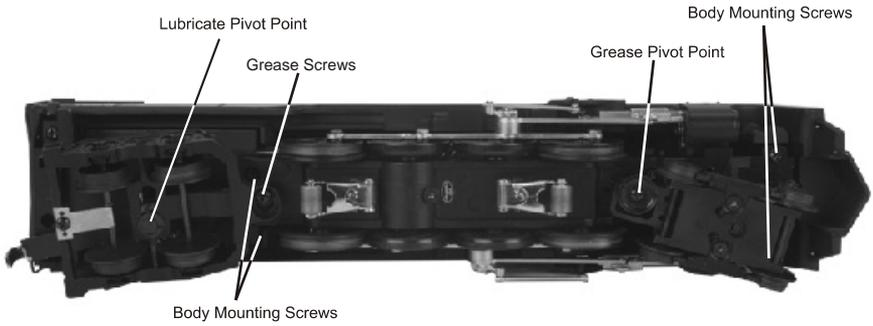
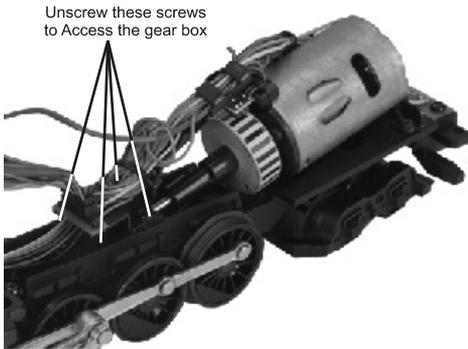

Figure 6. Removing the Body and Lubricating the Grease Points
Figure 7. Motor Gearing Grease Plate Screws
2. Remove the boiler by removing the body mounting screws shown in Fig 6
3. Remove the Phillips screw (marked “GREASE”) located at each set of wheels (Fig. 6) and the gearbox cover screws (Fig 7).
You should also grease the leading and trailing locomotive truck tongues to enhance their ability to slide on the chassis. Follow the grease points shown on Fig. 6.
1. To replace the headlight in this model you will need to follow the disassembly instructions for greasing the engine in figure 6 on pg. 13. Once the boiler has been removed you can access the headlight(see figure 8).
If you experience poor or no smoke output when the smoke unit is on and has fluid, check the wick to see if it has become hard, blackened, and unabsorbent around the heating element. To remove the smoke unit you will first have to remove the boiler shell (by removing the body mounting screws shown in Fig 6 on pg. 13). To do this, follow these instructions: